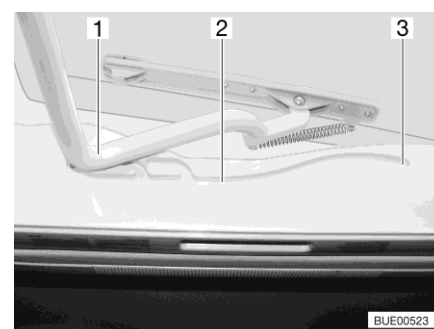

Fig. 22 Guide (Heki skylight)
- Pull the bar (Fig. 22,1) in the guides (Fig. 22,2) to the rearmost position (Fig. 22,3).
- Use both hands to push the bar (Fig. 22,1) slightly upwards.
- Pull the bar in the guides (Fig. 22,2) to the desired position.